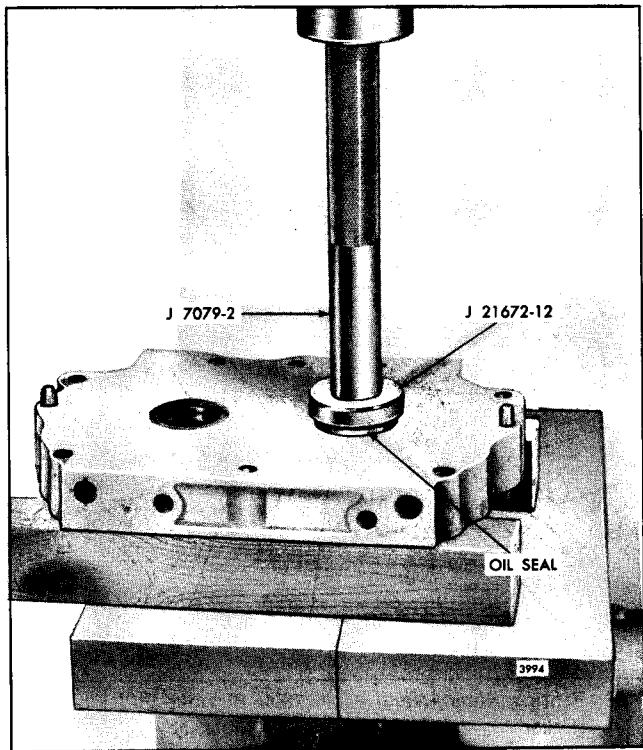

Fig. 11 - Installing Oil Seal in Rear End Plate (Former Blower)
- c. Place the oil seal installer J 21672-12 with handle J 7079-2 on top of the oil seal as shown in Fig. 11. Then press the oil seal straight into the end plate until the shoulder on the installer contacts the end plate.